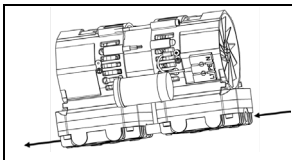

Fig. 3: Pump N 936
**i** In order to drain off possible condensate successfully, KNF recommends that pumps are installed in oblique position (with the suction line in higher position than the pressure line (see Fig. 3); for flow direction see the markings on the pump heads).